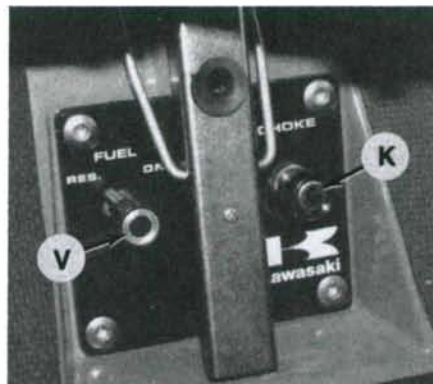

Fig. JS2-5—View identifies location of choke knob (K) and fuel selector valve (V).
CARBURETOR. Refer to Fig. JS2-4 for an exploded view of Mikuni type BN38 diaphragm carburetor used on all JS440 models and JS550 models prior to 1986. On JS550 models after 1985, a Mikuni type BN44 diaphragm carburetor is used. BN44 carburetor is similar to type shown in Fig. JS2-4. Choke plate (21—Fig. JS2-4) is actuated by choke knob (K—Fig. JS2-5) on control panel via a cable and linkage.
FUEL FILTER. An inline filter assembly (F—Fig. JS2-12) is located between fuel selector valve (V—Fig. JS2-5) and carburetor fuel pump intake. After every 25 hours of operation or more frequent if needed, unscrew ring nut (N—Fig. JS2-12) and withdraw cup (C) with sealing ring from base. Withdraw filter element. Clean cup (C) and filter element with a suitable cleaning solution. Renew filter element if excessive contamination or damage is noted. Allow cup and filter element to air dry or blow dry with clean, low air pressure. Renew small "O" ring in bottom of filter element, then install filter element. Make sure tension spring is positioned on bottom of filter element. Renew sealing ring and securely tighten nut (N) during installation of cup (C).